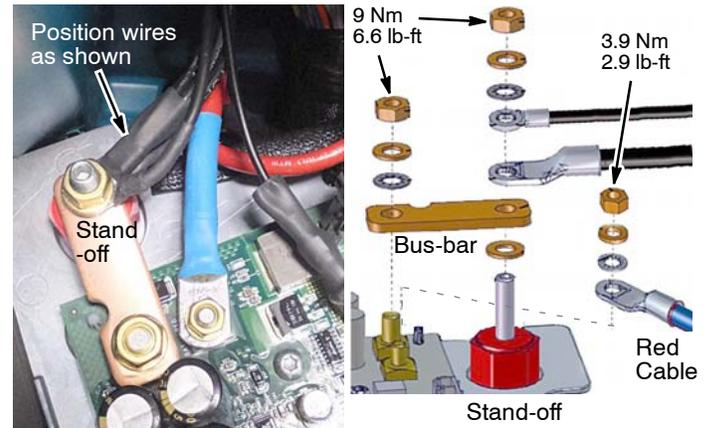

Fig. 9
5. Reconnect the bus-bar and red battery cable to new circuit board. To allow clearance to remount panel to machine, position the wires that are connected to the stand-off as shown (Figure 9).